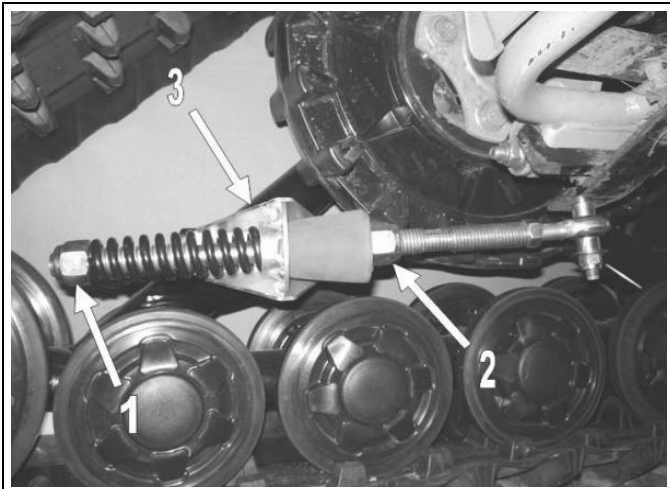

Figure 9
- Loosen the nut (1) compressing the spring of the stabilizing rod (refer to Figure 9).
- Turn the nut (2) until it comes in contact with both rubber damper and bracket (3). Then, compress the rubber damper by turning the nut (2) one turn.
- Turn the nut (1) until it comes in contact with the spring. Then compress the spring by turning this nut 1.5 turns.